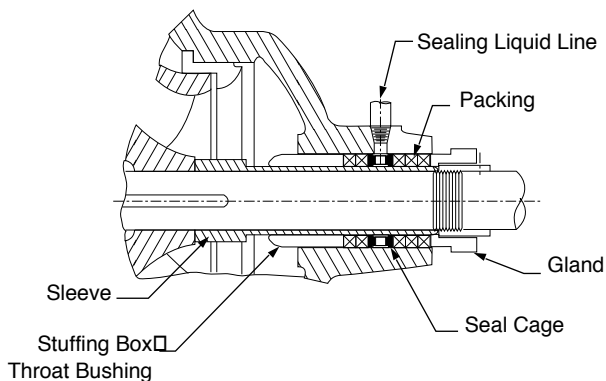

FIGURE 39. Conventional Stuffing Box
- Figure 39 shows a conventional stuffing box.